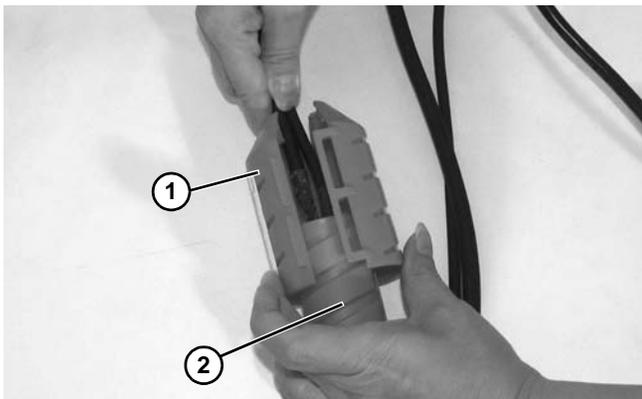

Figure 41
2. Remove outer cord cover (**Figure 41, item 1**) from inner cord cover (**Figure 41, item 2**).